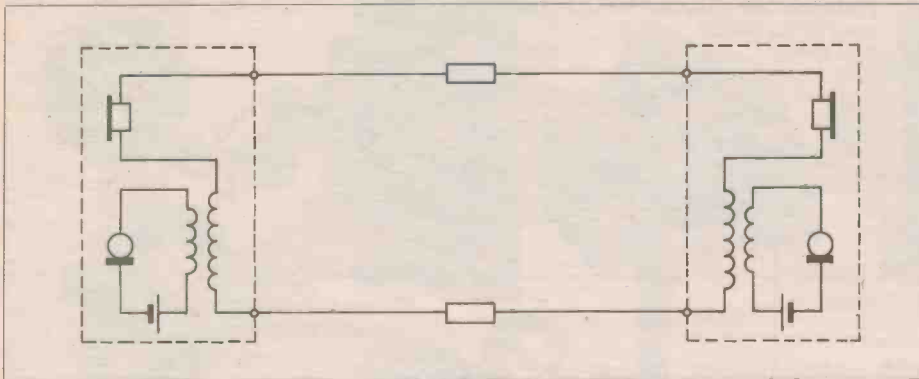

Figure 2. Local battery telephone principle.
The Local Battery (LB) circuit, shown in Figure 2, was devised to overcome at least some of these shortcomings. The microphone now sees just the low (and constant) resistance of the induction coil primary, which also improves its impedance match to the line. The match will rarely be exact, of course, because each telephone will be connected to a different length of line. The induction coil is a special type of transformer in which the magnetic circuit is deliberately not closed. This avoids the problems of core saturation that would otherwise occur due to the large DC flowing through one or both windings.